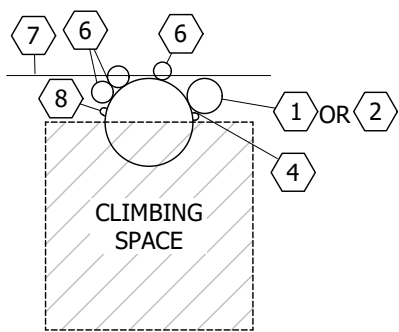

FIGURE 3
- ① COMMUNICATIONS ONLY POINT OF ATTACHMENT FOR LADDER ARM BRACKET CONSTRUCTION SHALL BE ON THE BACKSIDE OF LADDER ARM BRACKET ASSEMBLY. GALVANIZED UNISTRUT PIPE CLAMPS SHALL BE USED TO SECURE THE CONDUIT. COMMUNICATIONS MAY ATTACH ON THE BACK OF THE LADDER ARM ASSEMBLY ALONGSIDE SDG&E'S RISER. LADDER ARMS MAY BE INSTALLED BY COMMUNICATIONS COMPANY PROVIDED THEY ARE INSTALLED PER SDG&E CONSTRUCTION STANDARDS AND MEET SDG&E MATERIAL SPECIFICATIONS.
- ② FOR NEW CONSTRUCTION WITH AN EXISTING SDG&E RISER ON THE POLE (FIGURE 3), ONE THREE-INCH RISER MAX. ON THE POLE AND ONE THREE-INCH RISER MAX. ON THE BACKSIDE OF THE LADDER ARM BRACKET ARE PERMITTED BACK TO BACK.
- ③ WHEN A LADDER ARM IS EXISTING, AND THE BACK OF LADDER ARM POSITIONS AND POLE POSITIONS ON COMMUNICATIONS SIDE OF POLE ARE OCCUPIED, ADDITIONAL COMMUNICATIONS RISERS MUST BE PLACED ON ANOTHER POLE.